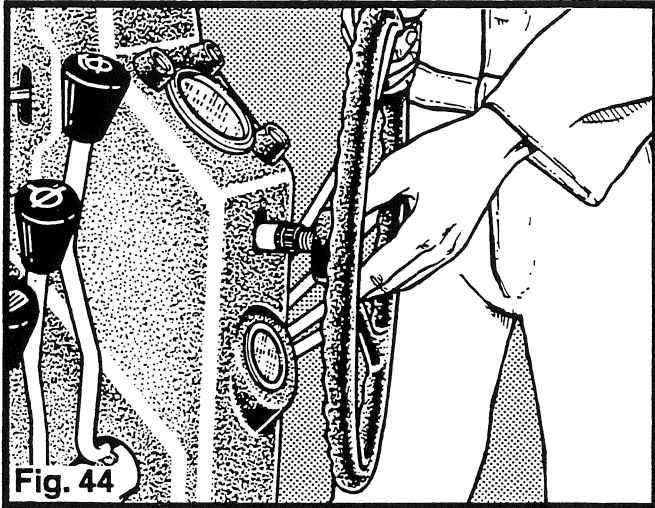

Fig. 44
2. Remove the brass knob (23) and steering wheel nut. (Fig. 44)